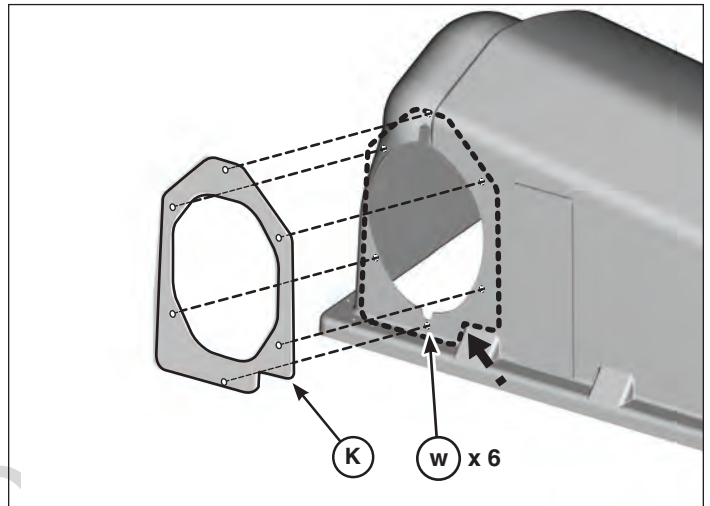

Figure 18
1. Use flange seal (K, Figure 18) as a template.